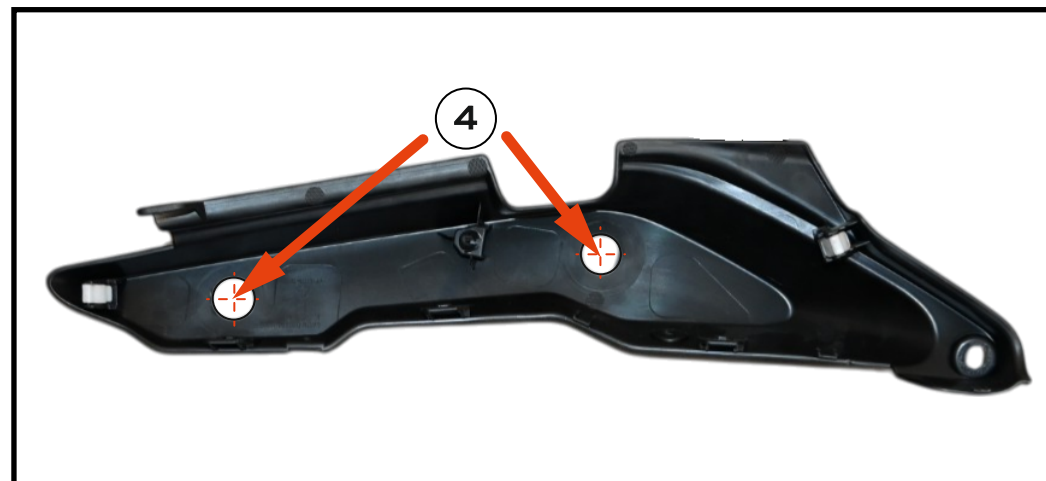

Fig. 6
4. Use a  $\varnothing 17.5$  mm drill bit to drill the holes in the side covers. Deburr the edges of the drilled holes. **[Fig. 6].**